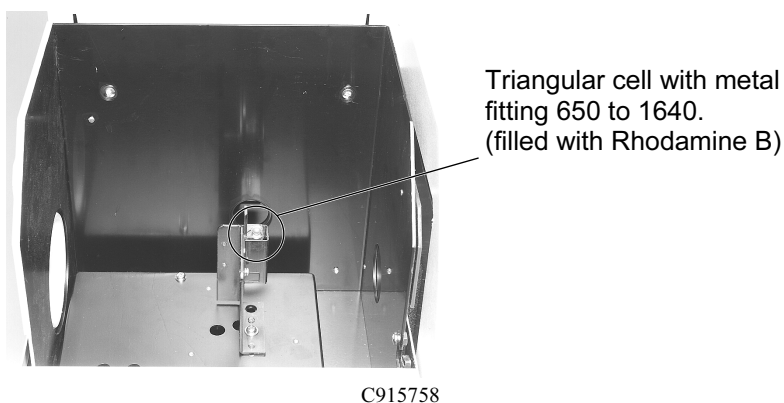

Fig. F-2 Setting of Rhodamine B
(2) Operating Procedures
- (b) Set the triangular cell filled with Rhodamine B into the cell holder in the sample compartment. (See Fig. F-2).